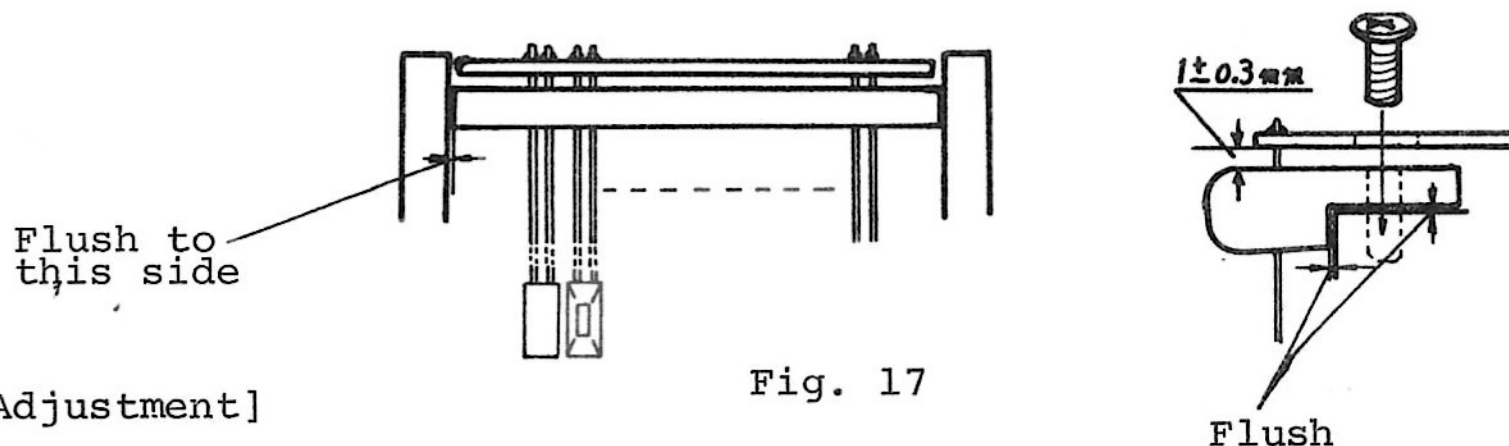

Fig. 17
- (1) Attach hammer unit. (See Fig. 17)
- (2) Tighten two screws for hammer unit.
- (3) Insert hammer unit leads to PCB and solder them using stainless steel flux such as TKC-0360, solderite XN-10S.
- (4) Tighten screw for PCB and two screws for detector.
- (5) Attach paper guides.